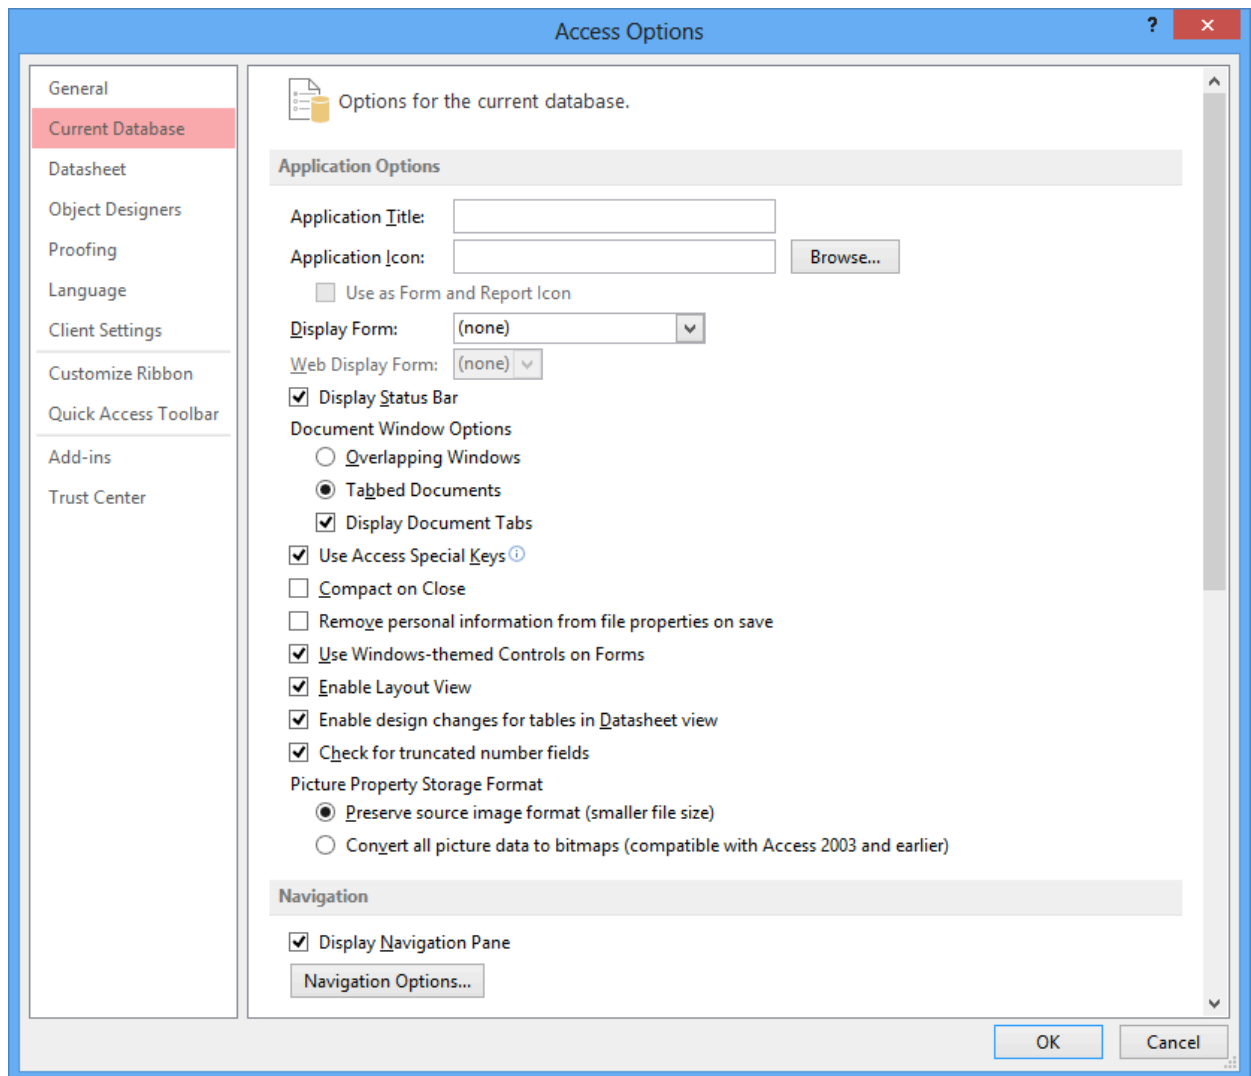
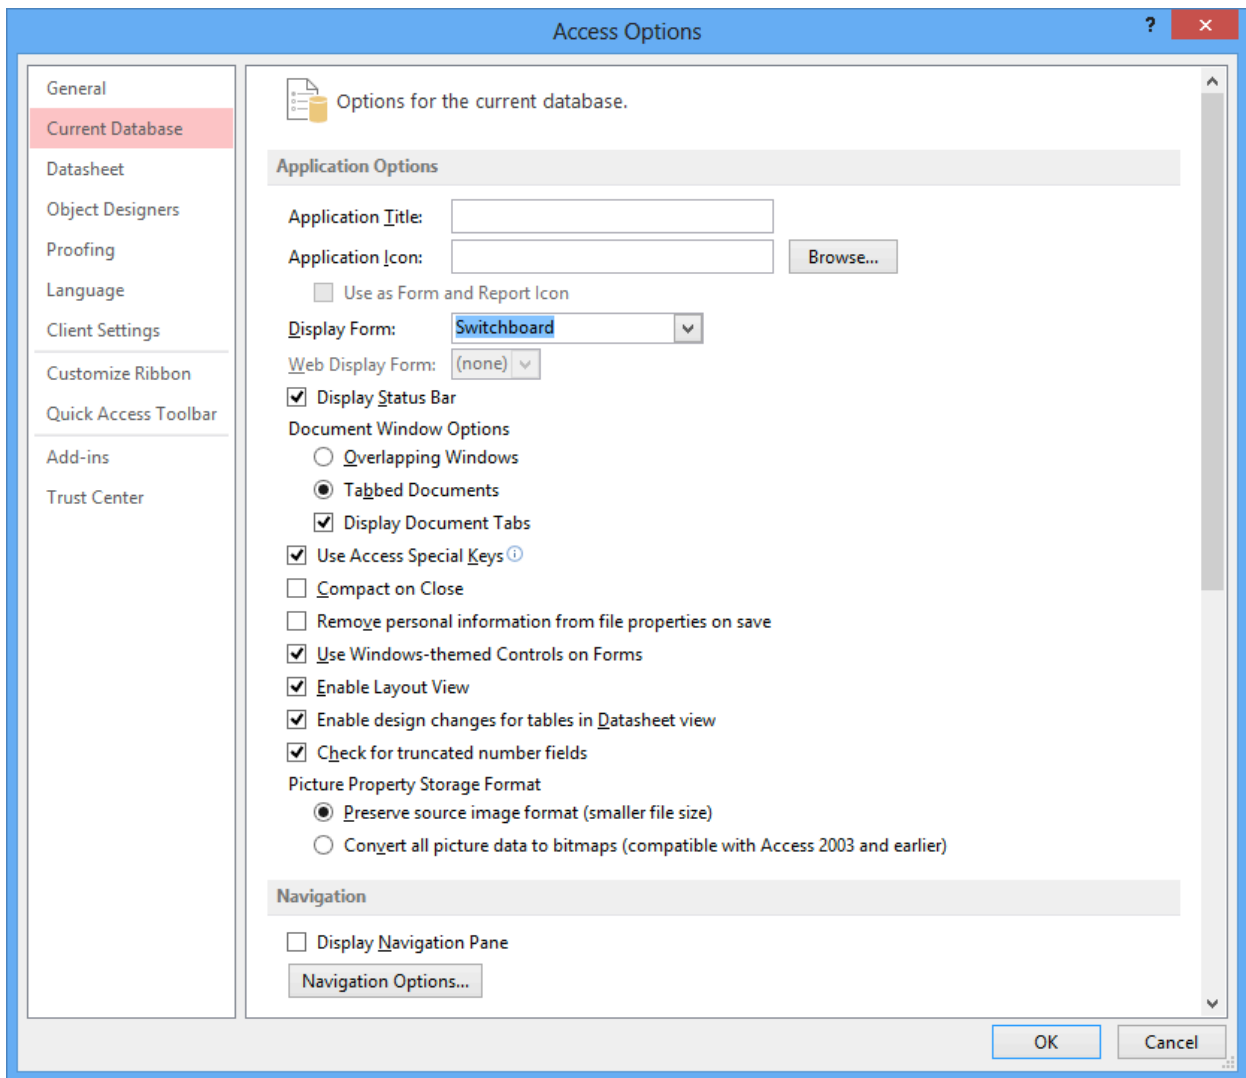

Figure 12: Current Database Window
Figure 13: Current Database Window after Modifications
2. Modify the Current Database Window: In the *Display Form* field (Figure 12), select “Switchboard”. Uncheck the *Display Navigation Pane* box to clear it (Figure 13). You do not want the Navigation pane to appear. Click **OK** to close the window. Note that this change becomes effective the next time you open the database.
Navigation forms can be used at startup just like switchboard forms. To make the *Auto Repair Navigation Form* as the startup form, follow the instructions in Section 8.1.2. If you want to deploy your database to a Sharepoint server, you should select the navigation form in the Web Display Form list in Figure 12.